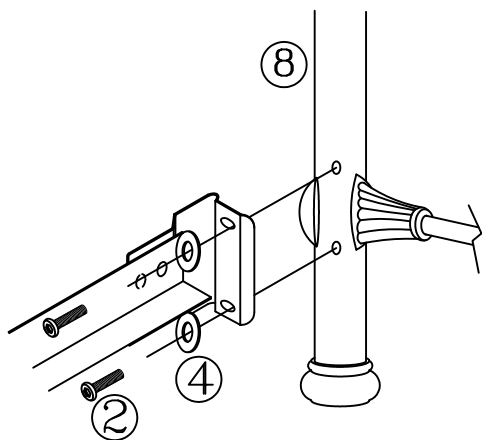

FIGURE 3
- Place a flat washer (4) first and then a nut (3) on each screw. Hand-tighten, DO NOT TIGHTEN screws all the way.
- Tighten all screws securely using the Allen wrench (5).
- Position footboard panel (8) and align holes in the post with holes in the frame bracket. (See figure 3)
- Place a flat washer (4) on each screw (2). Insert through bracket and into post. Hand-tighten, DO NOT TIGHTEN screws all the way.